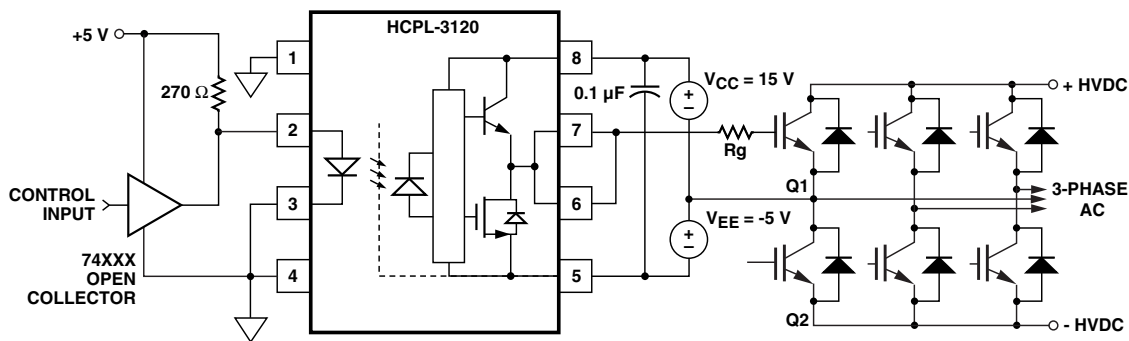

Figure 26. HCPL-3120 typical application circuit with negative IGBT gate drive.
Step 1: Calculate Rg Minimum from the I_{OL} Peak Specification. The IGBT and Rg in Figure 26 can be analyzed as a simple RC circuit with a voltage supplied by the HCPL-3120.
For the circuit in Figure 26 with I_F (worst case) = 16mA, Rg = 8Ω, Max Duty Cycle = 80%, Qg = 500 nC, f = 20 kHz and T_A max = 85 °C: